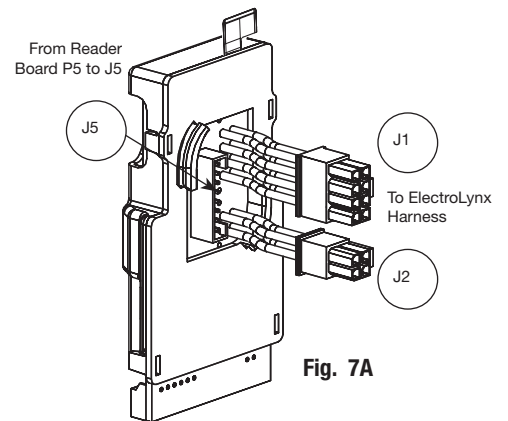

Fig. 7A
1. Connect P5 (7 Pin Connector) from reader board to J5 on interior escutcheon PCB assembly (Fig. 7A).
2. Connect ElectroLynx harness (4 and 8-pin) from door harness to ElectroLynx harness on interior PCB assembly (Fig. 7A).